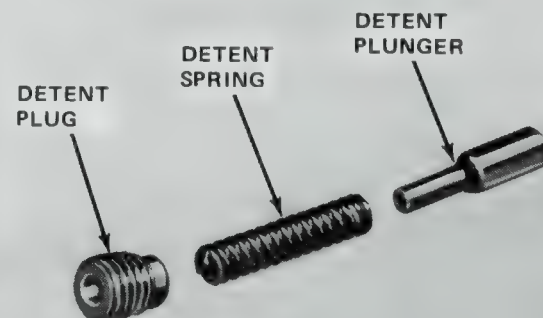

Fig. 2B-46 Detent Plug, Spring, and Plunger
- (10) Remove interlock plate retaining pin using 5/16-inch diameter rod inserted through access plug hole (fig. 2B-48) and remove interlock plate.